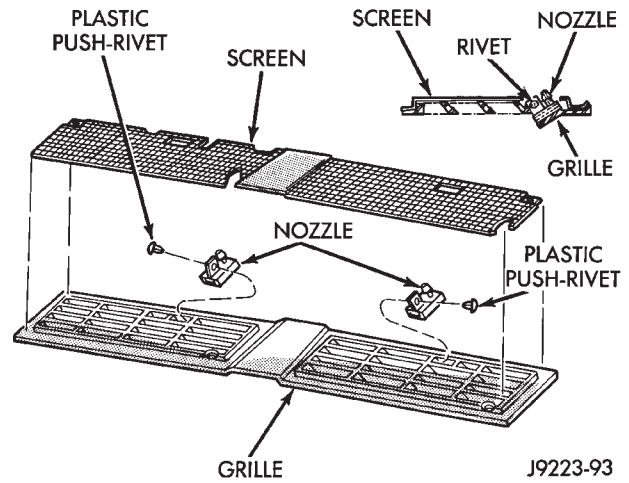

Fig. 28 Cowl Grille, Screen & Washer Nozzles
(4) Remove the cowl grille and screen from the cowl (Fig. 28).
(5) If necessary, remove the push-rivets and washer nozzles from the cowl grille (Fig. 28).